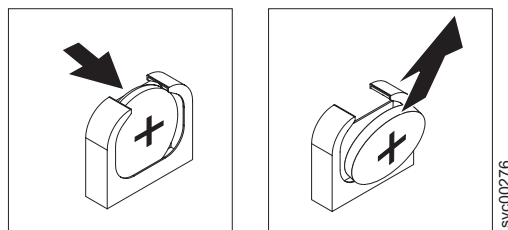

Figure 132. SAN Volume Controller 2145-CG8 or 2145-CF8 CMOS battery holder
8. Remove the CMOS battery, as shown in Figure 132: